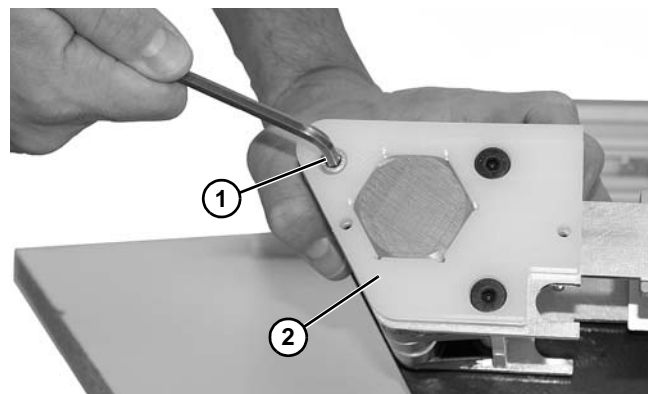

Figure 91
4. Remove socket head screw (**Figure 91, item 1**) that holds plastic spacer in place. Remove plastic spacer (**Figure 91, item 1**).